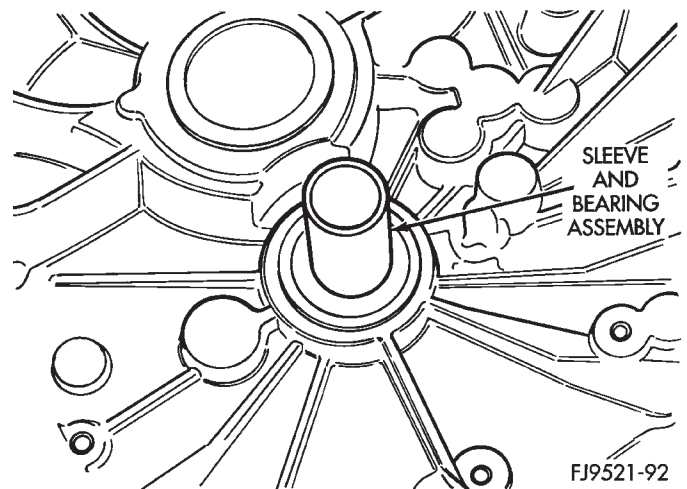

Fig. 139 Input Bearing Installed
(3) Using the spacer tool #4894 and shop press, install input bearing into bore until it is fully seated (Fig. 139).